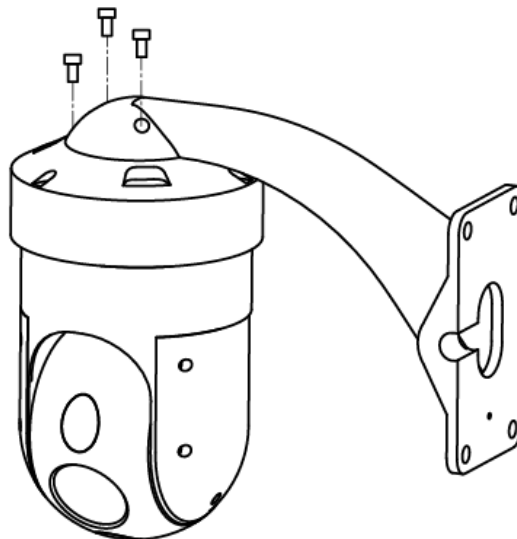

Figure 9
7. Please fix the dome to the bracket (Figure 9).